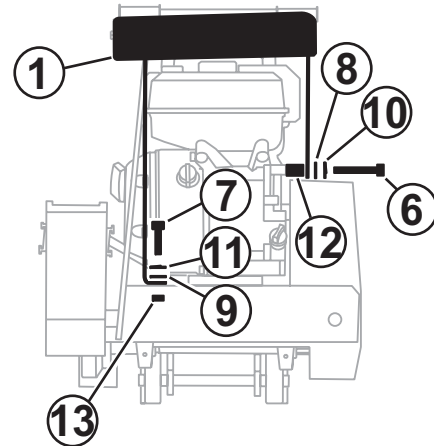

Figure 24. Water Tank Kit (Option)
2. Slide the Tank Shelf (item 1, Figure 24) over the top of the engine so the recoil starter fits through the large opening in the shelf. The recoil starter handle must be accessible through this opening. Ensure the recoil starter handle can be pulled without binding or interference with the shelving.
3. Mount the Tank Shelf to the frame using hardware items 7, 9, 11, and 13 to attach the shelf to the frame utilizing existing slots in the frame.
5. After determining the correct spacer length, place the spacers (item 12, Figure 24) between the engine block and the tank shelf bracket and secure the assembly with the 3/8" hardware (items 6, 8, and 10). Use the appropriate length bolt (item 6) for your application.